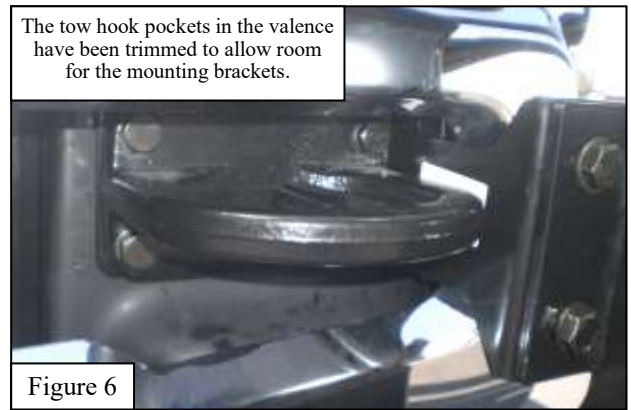

Figure 4
5. Move to the front of the vehicle and remove the factory tow hooks. Take the Driver Side Upper Mounting Bracket (Item 4) and place it between the frame and tow hook. Replace the factory tow hook hardware using (4) M10 hex head cap screws (8) M10 flat washers, (4) M10 lock washers, and (4) M10 hex nuts. See **Figures 4 & 8** for reference. Repeat this step for the passenger side.